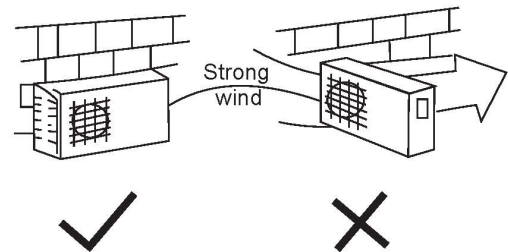

Fig.17
- In the case that the installation place is exposed to strong wind such as a seaside, make sure the fan operating properly by putting the unit lengthwise along the wall or using a dust or shield plates, Fig.17.